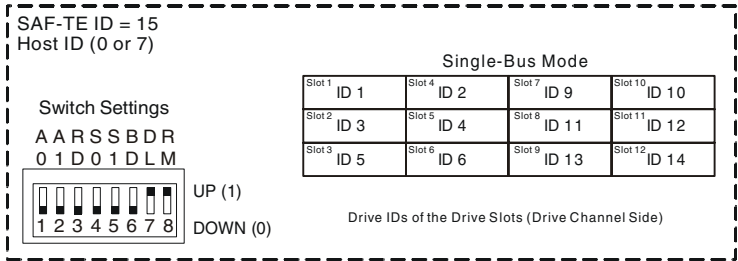

Figure 2-8 Single-Bus JBOD Switch Setting (DuraStor 412R)
- 3 Locate the switches on the card and set them as shown in figures 2-8 through 2-10.